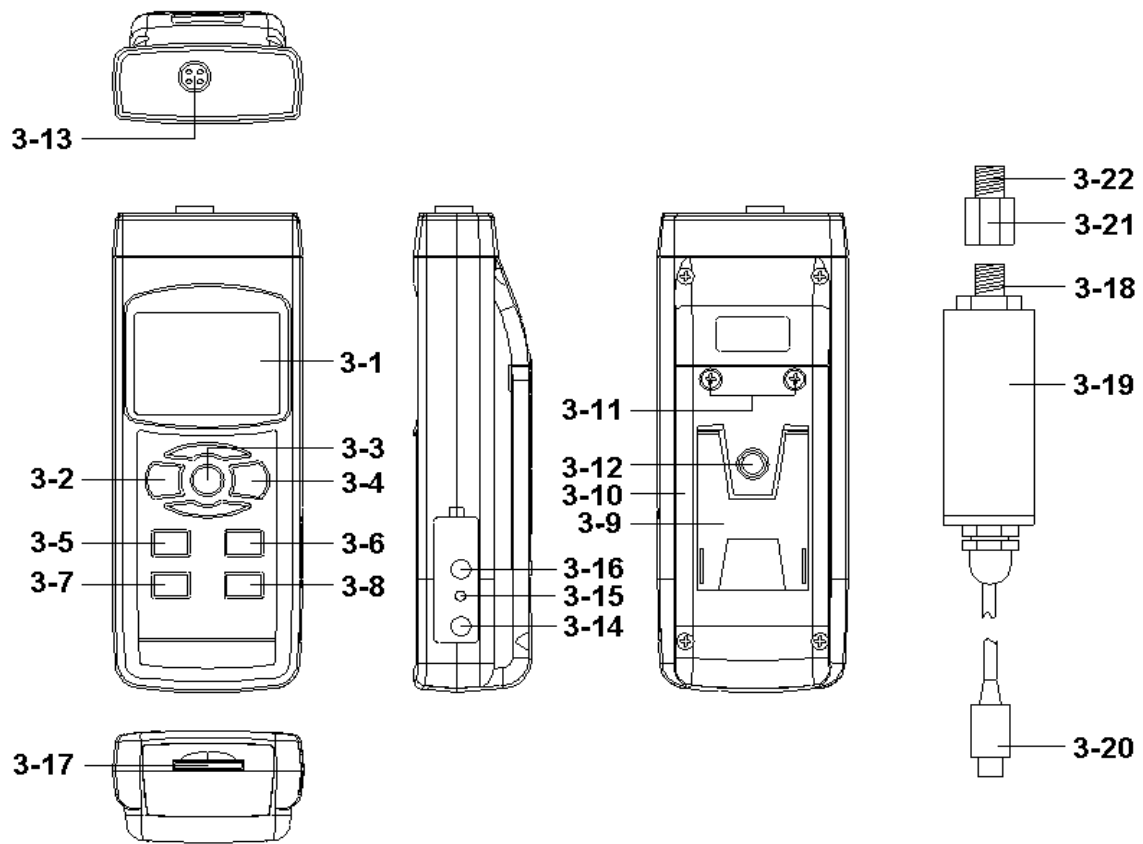

Fig. 1
- 1) Plug in the " Plug of Vacuum Sensor " ( 3-20, Fig. 1 ) to meter's " Probe Input Socket " ( 3-13, Fig. 1 )
- 2) Power on the meter by pushing the " Power Button " ( 3-2, Fig. 1 ) once.
- 4) Press the " Unit Button " ( 3-5, Fig. 1 ) once in sequence to select the measuring 7 kind units as : mBar, mmHg, KPA, hPA, inch Hg, Psi, torr.
Power on the meter, disconnect the " Vacuum sensor " from the meter, if the Display is not show zero value, push the " Zero Button " ( 3-7, Fig. 1 ), > 10 seconds continuously, the Display value will change to zero value.
- 6) Connect the " Port Connector " ( 3-18, 3-22, Fig. 1 ) to the equipment that intend to be measured the vacuum value.
During the measurement, press the " Hold Button " ( 3-3, Fig. 1 ) once will hold the measured value & the LCD will display a " HOLD " symbol.
1) The data record function records the maximum and minimum readings. Press the " REC Button " ( 3-4, Fig. 1 ) once to start the Data Record function and there will be a " REC " symbol on the display.
a) Press the " REC Button " ( 3-4, Fig. 1 ) once, the " REC MAX " symbol along with the maximum value will appear on the display.
*If intend to delete the maximum value, just press the " Hold Button " ( 3-3, Fig. 1 ) once, then the display will show the " REC " symbol only & execute the memory function continuously.*
b) Press the " REC Button " ( 3-4, Fig. 1 ) again, the " REC MIN " symbol along with the minimum value will appear on the display.
*If intend to delete the minimum value, just press the " Hold Button " ( 3-3, Fig. 1 ) once, then the display will show the " REC " symbol only & execute the memory function continuously.*
After power ON, the " LCD Backlight " will light automatically. During the measurement, press the " Backlight Button " ( 3-2, Fig. 1 ) once will turn OFF the " LCD Backlight ".
Prepare a " SD memory card " ( 1 GB to 16 GB, optional ), insert the SD card into the " SD card socket " ( 3-17, Fig. 1 ). The front panel of the SD card should face against the down case.
Press the " REC Button ( 3-4, Fig. 1 ) once , the LCD will show the text " REC " , then press the " Logger Button " ( 3-8, Fig. 1 ), the bottom text " DATALOGGER " will flashing, at the same time the measuring data along the time information will be saved into the memory circuit.
During execute the Datalogger function , if press the " Logger Button " ( 3-8, Fig. 1 ) once will pause the Datalogger function ( stop to save the measuring data into the memory circuit temporally ). In the same time the text of " DATALOGGER " will be no flashing.
*If press the " Logger Button " ( 3-8, Fig. 1 ) once again will execute the Datalogger again, the bottom text of " DATALOGGER " will flashing .*
During pause the Datalogger, press the " REC Button " ( 3-4, Fig. 1 ) continuously at least two seconds, the " REC " indication will be disappeared and finish the Datalogger.
Press the " REC Button ( 3-4, Fig. 1 ) once , the LCD will show the text " REC ", then press the " Logger Button " ( 3-8, Fig. 1 ) once, the bottom text " DATALOGGER " will flashing once and Beeper will sound once, at the same time the measuring data along the time information will be saved into the memory circuit. The lower Display will show the Position ( Location ) no. and saved into the SD card too.
*During execute the Manual Datalogger, press the " ▲ Button " ( 3-5, Fig, 1 ) the lower no. ( position no. ) will flashing. It can use the " ▲ Button " ( 3-5, Fig. 1 ) or " ▼ Button " ( 3-6, Fig. 1 ) to set the measuring Location no. ( 1 to 99, for example room 1 to room 99 ) to identify the measurement location , the lower Display will show P x ( x = 1 to 99 ).*
Press the " REC Button " ( 3-4, Fig. 1 ) continuously at least two seconds, the " REC " indication will be disappeared and finish the Datalogger.
- 1) If press " Time Button " ( 3-7, Fig. 1 ) once , the lower LCD display will present the time information of Hour/Minute/Second ( h.m.s ) in the lower Display.
- 2) If press " Time Button " ( 3-7, Fig. 1 ) once again , the lower LCD display will present the time information of Year/Month/Date ( yy.mm.dd ) in the lower Display.
- 3) If press " Time Button " ( 3-7, Fig. 1 ) once again , the LCD will return to normal screen.
During the normal measurement screen ( not execute the Datalogger ), If press " Sampling Button " ( 3-8, Fig. 1 ) once , the lower LCD display will present the Sampling time information in second unit.